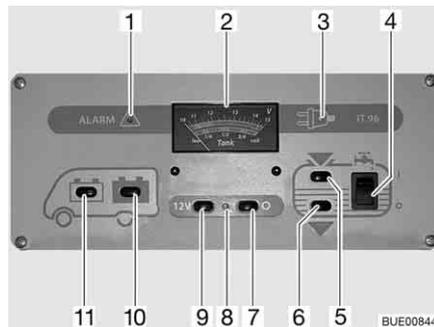

Fig. 156 Panel IT 96-2
The 12 V main switch (Fig. 156,7 and 9) switches the panel and the 12 V power supply to the living area on and off.
Switching on: ■ Press switch (Fig. 156,9) "12 V": The 12 V living area power supply is switched on. The indicator lamp (Fig. 156,8) lights up green.
Switching off: ■ Press switch (Fig. 156,7) "O": The 12 V living area power supply is switched off. The indicator lamp (Fig. 156,8) goes out.
With the V/tank gauge (Fig. 156,2), note the top scale. The gauge automatically lights up as soon as a switch is pressed.
- Press switch (Fig. 156,11) "": The battery voltage of the starter battery is displayed.
- Press switch (Fig. 156,10) "": The battery voltage of the living area battery is displayed.
The V/tank gauge is for the indication of the quantity of water or waste water. With the V/tank gauge (Fig. 156,2), use the bottom scale. The gauge automatically lights up as soon as a switch is pressed.
- Press switch (Fig. 156,5) "": The volume of water is displayed.
- Press switch (Fig. 156,6) "": The volume of waste water is displayed.
Switching on: ■ Press the upper part of the rocker switch (Fig. 156,4) "I": The water supply is ON.
Switching off: ■ Press the lower part of the rocker switch (Fig. 156,4) "O": The water supply is OFF.
The red "ALARM" warning light (Fig. 156,1) flashes as soon as the voltage of the living area battery falls below 11 V (measured under operation) and there is a risk of a total discharge.
The 12 V indicator lamp (Fig. 156,8) illuminates whenever the 12 V main switch (Fig. 156,9) is switched on.
The yellow 230 V indicator lamp (Fig. 156,3) illuminates whenever line voltage is available at the transformer/rectifier input.